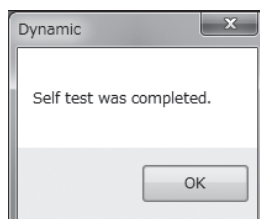
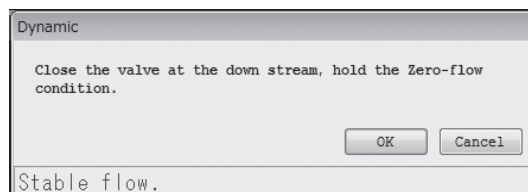

Fig.119
Fig.120
- ⑤ Click "OK" to execute the checks. Once they are finished, a message box (Fig. 119) will be displayed. Click the "OK" button to complete the dynamic device installation state check. The results are displayed as shown in Fig. 120.